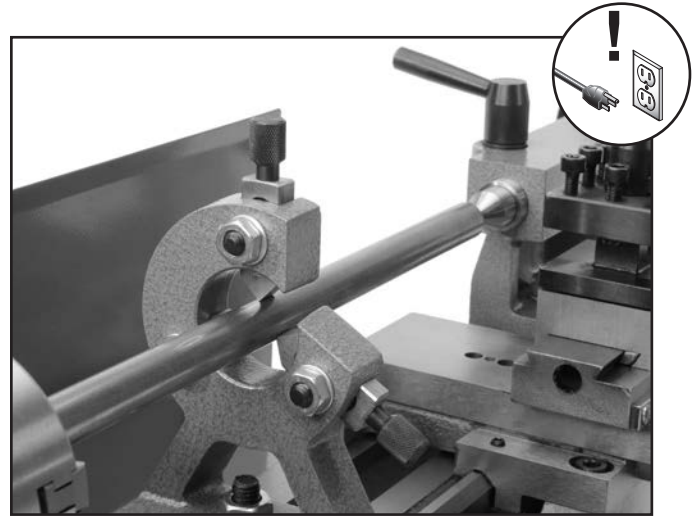

Figure 21. Steady rest.
4. Place the workpiece so it can fit inside the fingers. Secure the two ends of the workpiece with the chuck and dead center or between two centers as required (see **Figure 21**).